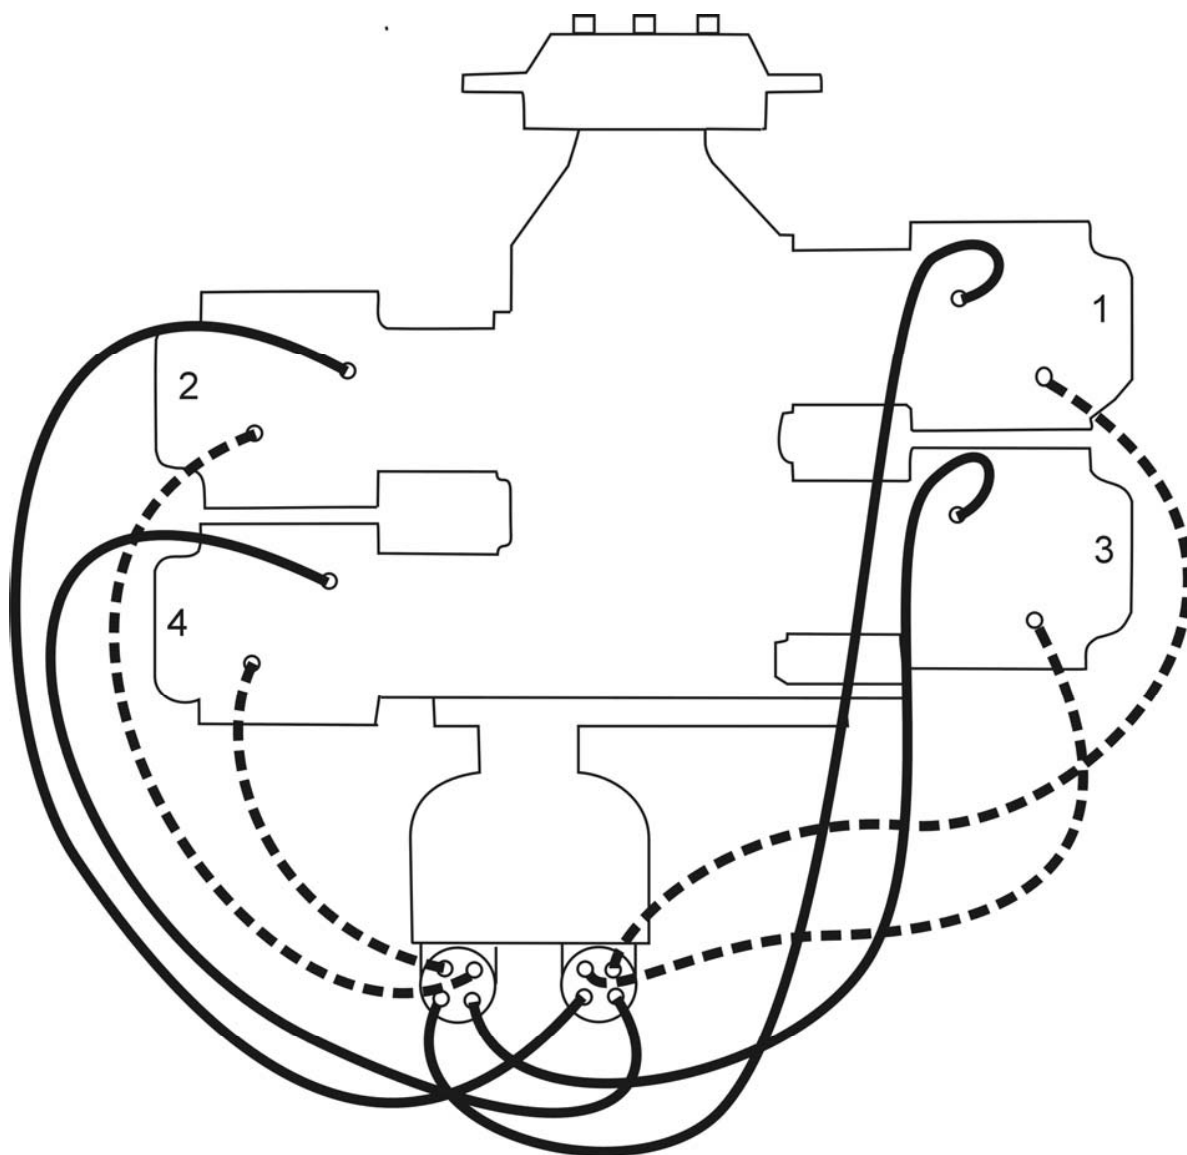

Figure 5-1. Ignition Wiring Diagram – Dual Magneto
- (7) Hold the magneto in its No. 1 firing position (tooth in window center and pointer over R or L mark on rotor) and install magneto to the engine and loosely clamp in position.
- (8) Attach red lead from the timing light to left switch adapter lead, green lead of timing light to right switch adapter lead and the black lead of the light to magneto housing.
- (9) Turn the entire magneto in direction of rotor rotation until the red timing light comes on.
- (10) Rotate the magneto in the opposite direction until the red light just goes off indicating left main breaker has opened. Then evenly tighten the magneto mounting clamps.
- (11) Back the engine up approximately 10° and then carefully “bump” the crankshaft in direction of rotation, at the same time observing the timing lights.
- (12) At the No. 1 firing position of the engine, the red light should go off indicating left main breaker opening. The right main breaker monitored by the green light, must open within ± 2 engine degrees of the No. 1 firing position.
- (13) Repeat steps (9) thru (11) until the condition described in paragraph (12) is obtained.
- (14) Complete tightening of the magneto securing clamps by torqueing to 150 in.-lbs.
- (15) Recheck timing once more and if satisfactory disconnect timing light. Remove adapter leads.
- (16) Reinstall plugs in timing inspection holes and torque 12-15 in.-lbs.
- (17) Install the harness leads as shown in Figure 5-1 to spark plug and connect switch lead to proper terminal.